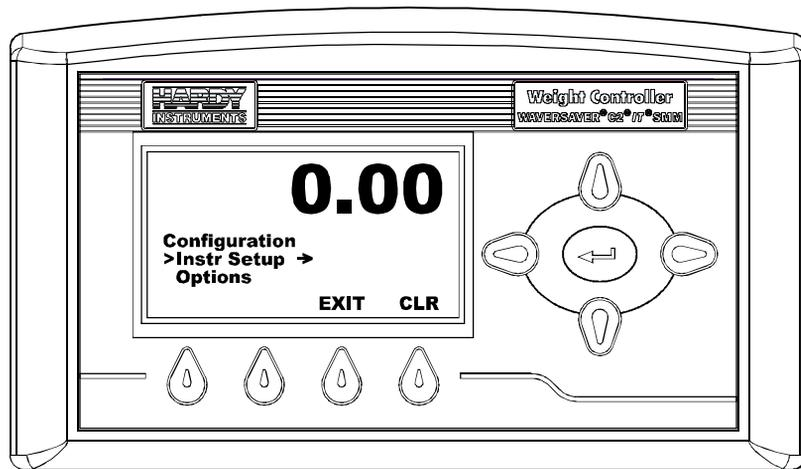

FIG. 66 CONFIGURATION MENU
- Step 1. From the Summary display press the Enter button. The Configuration Menu appears. (See Fig. 66)